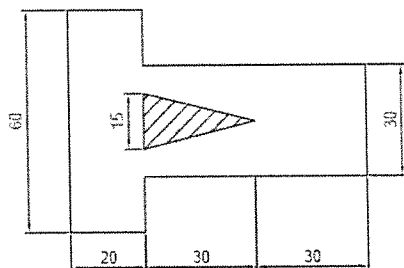

FIGURE 3
- 3.2 FIGURE 3, DIAGRAM SHEET 2 (attached), shows a lamina of which the triangle section has been removed that is symmetrical about its vertical axis X-X. (11) [14]